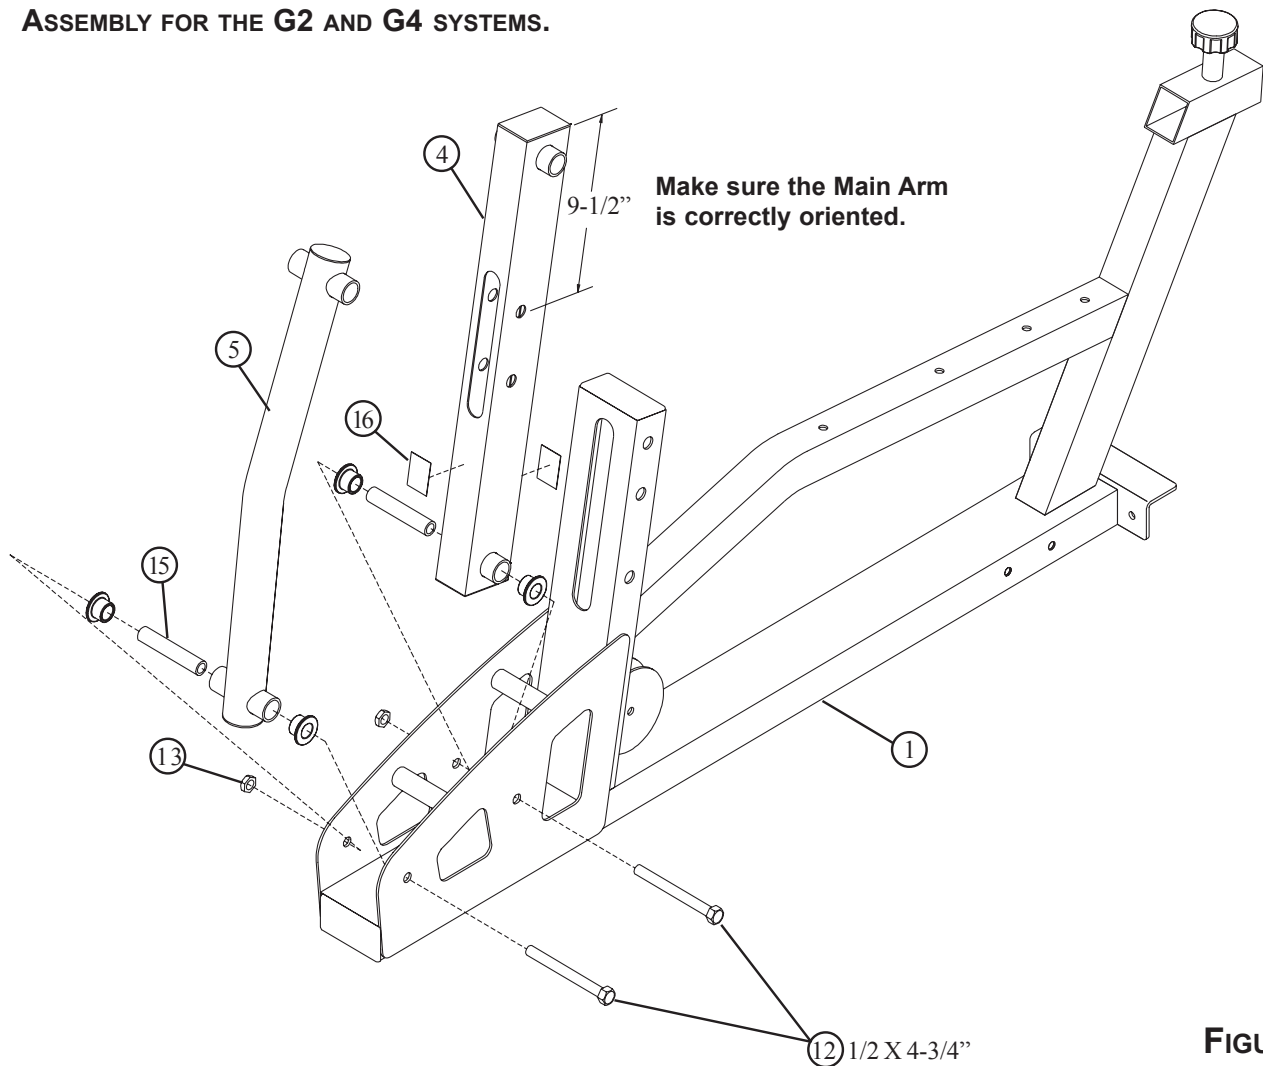

FIGURE 1
- Securely assemble the Second Arm (5) to the Frame (1) using one 1/2 x 4-3/4" Bolt (12), one 3/4 x 4" Shaft (15) and one 1/2" Lock Nut (13). See Figure 1.
- Securely assemble the Main Arm (4) to the Frame (1) using one 1/2 x 4-3/4" Bolt (12), two 3/4" Flange Bearings (14), one 3/4 x 4" Shaft (15) and one 1/2" Lock Nut (13).
Note: Make sure Main Arm (4) is oriented correctly. The top hole should be 9-1/2" from the top of the arm as shown in Figure 1.
- Securely assemble two 1-1/2" Bumpers (16) to each side of the Main Arm (4) where the Main Arm (4) contacts the Frame (1). See Figure 1.